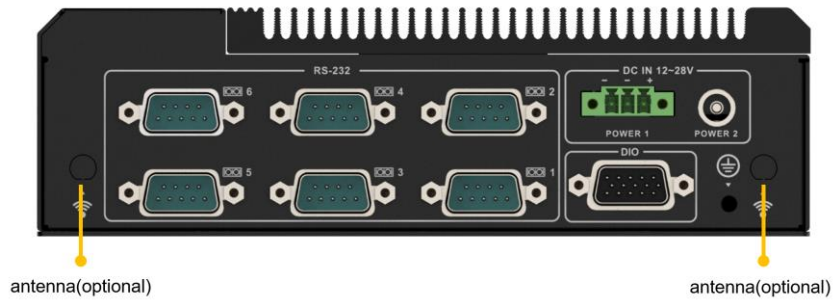

Figure 3-5: Knockout Holes for Wireless Antenna
- Step 2:** Remove the two knockout holes for antenna installation. The two knockout holes are located on the rear panel of the TANK-630-EHL Series as shown in **Figure 3-5**.